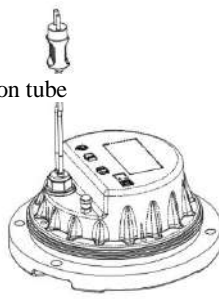

Figure 4-26
- After detection, release the air pressure in the lighting fixture with the air valve of the valve core, re-screw the valve cap and put it into use (Figure 4-26). In case of leakage, check the causes according to the previous prompts and repeat the whole lighting fixture disassembly and assembly process or return it to the factory for maintenance.